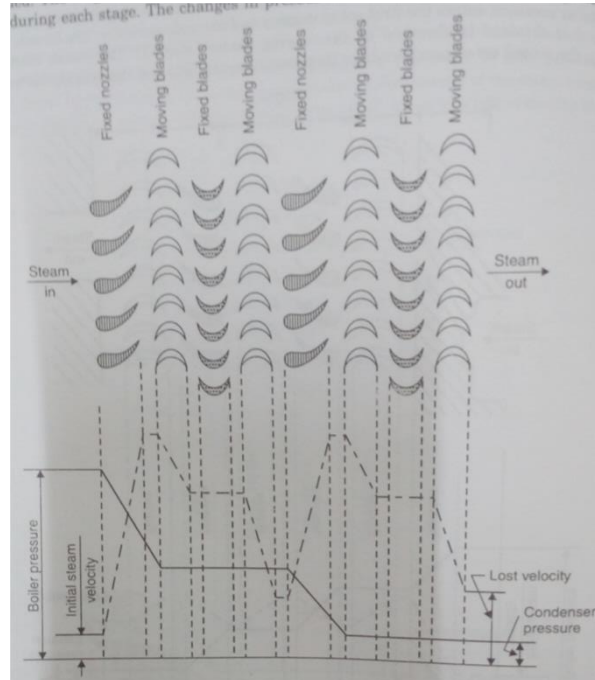

Figure 5 Pressure Velocity Compounding
- The change in pressure and velocity are shown in following figure 5